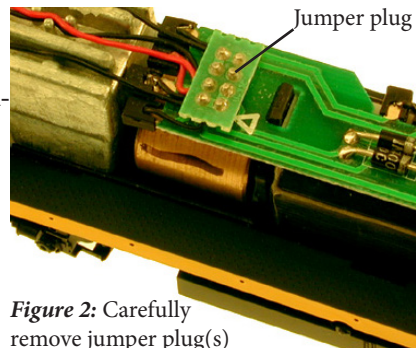

Figure 2: Carefully remove jumper plug(s)
2. Remove the jumper plug/s from the locomotive's DCC ready socket. (**Figure 2**) The jumper plugs allow the loco to operate on a standard DC track or in analog mode on a DCC track.